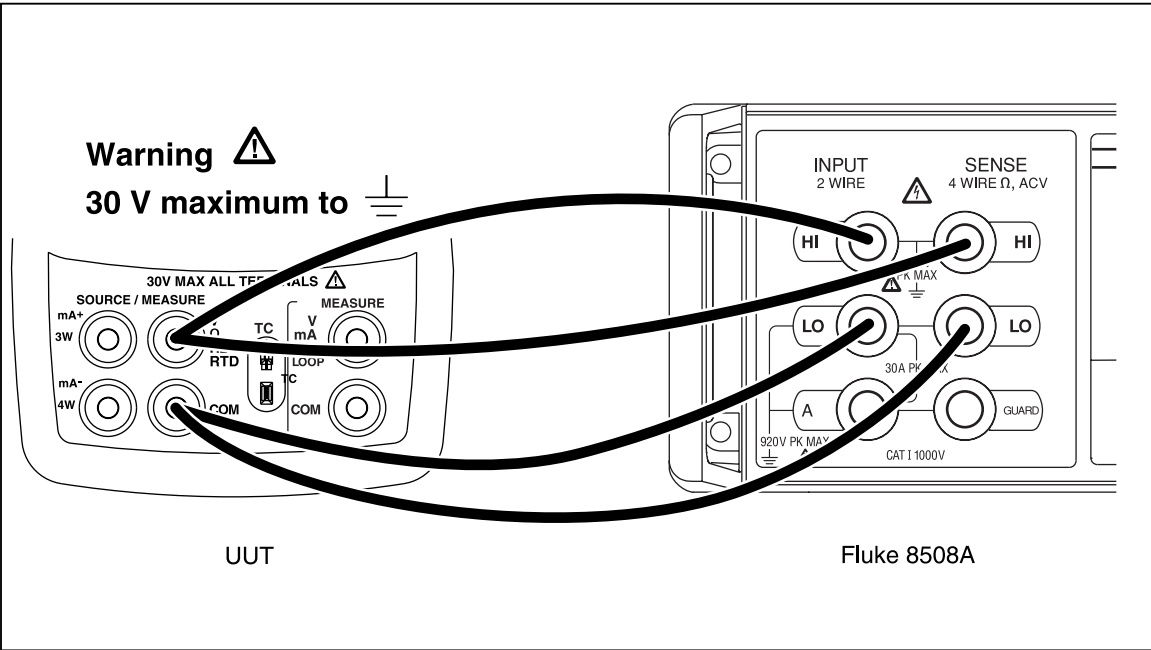

Figure 12. Lower Display Ohms Source Test Connections
4. Make the connections shown in Figure 12.